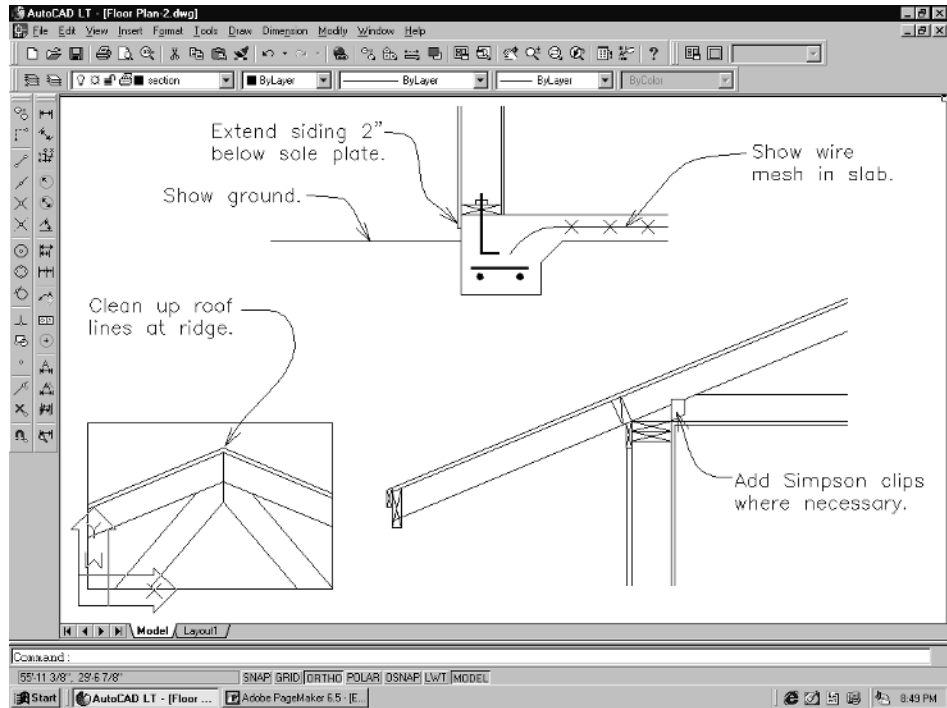

Figure 3-80
2. Next, add clips where necessary, extend siding past the sole plate, add wire mesh to the slab, and clean the roof lines at the ridge. Your drawing should resemble Figure 3-80.